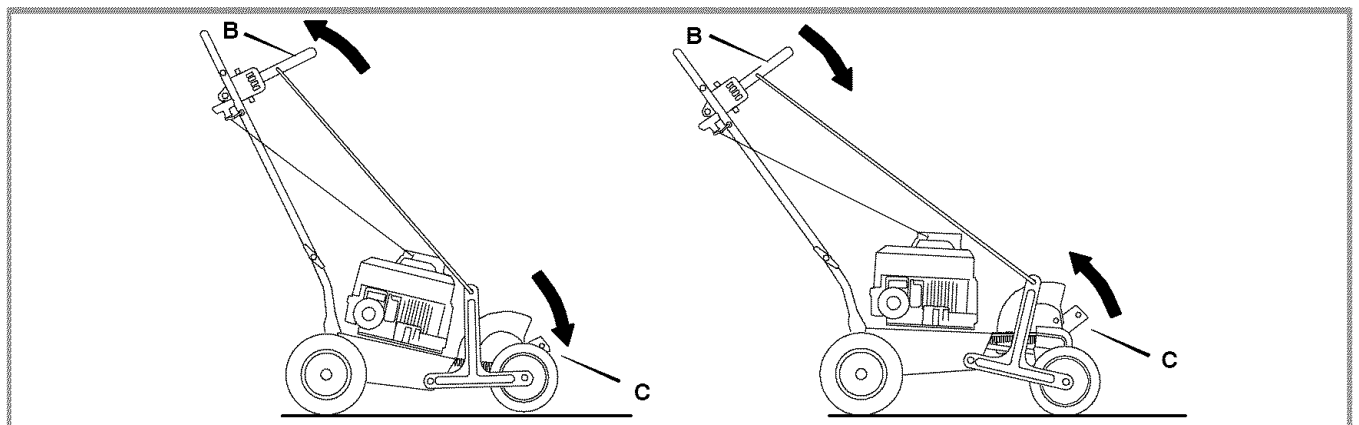

Figure 11: Depth Control
- 2 To lower the cutting blade (C), pull the depth control lever (B) back. To raise the cutting blade, push the depth control lever forward (see Figure 11).